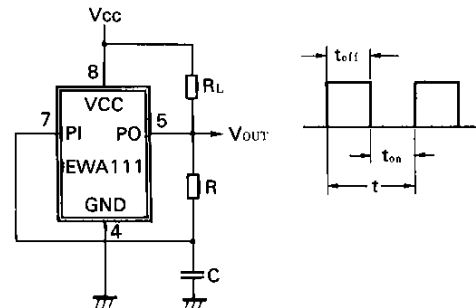

Fig. 15 Astable multivibrator circuit
Figure 15 shows an example of an EWA111-applied astable multivibrator circuit. The output transistor ON time  $t_{on}$ , OFF time  $t_{off}$ , and cycle  $t$  can be calculated using formulas (12), (13), and (14).